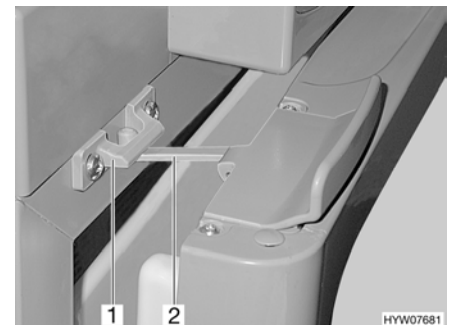

Fig. 188 Refrigerator door in ventilation position (Thetford)
- Open the lock (Fig. 188,2) and snap it into the locking catch (Fig. 188,1). The refrigerator door will then stay slightly open.